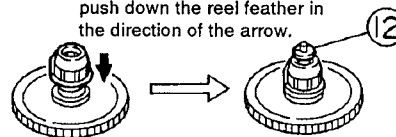

Fig. 4-12
■ **Reel disk ass'y** (See Fig. 4-12)